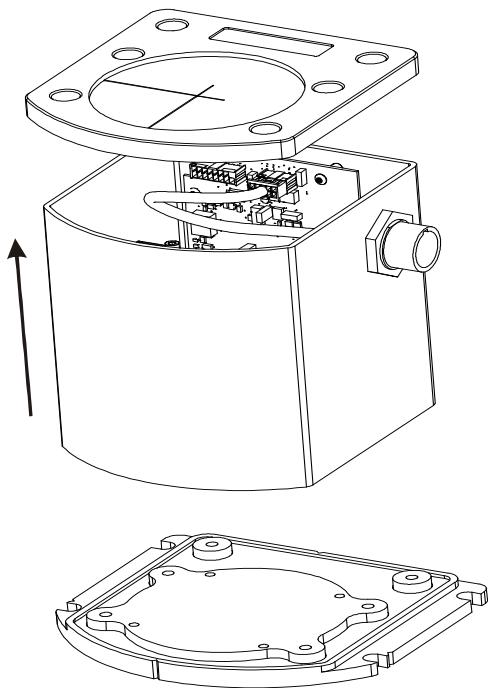

Figure 77: Lift Top Cover and Tube Body
4. Lift the tube body away from its base plate and set it aside, as shown in *Figure 77* on page 379.